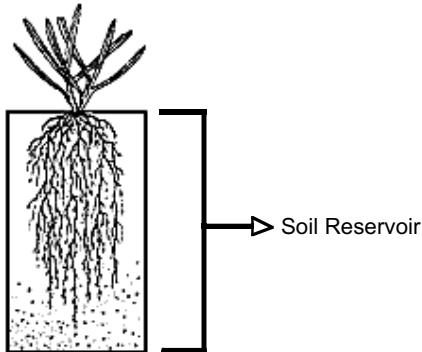

Figure 1. Soil Reservoir
**The soil is a reservoir:** The purpose of watering is to replenish the soil reservoir, which makes water available for plants (see Figure 1). This reservoir has a limited capacity based on soil type and root depth.